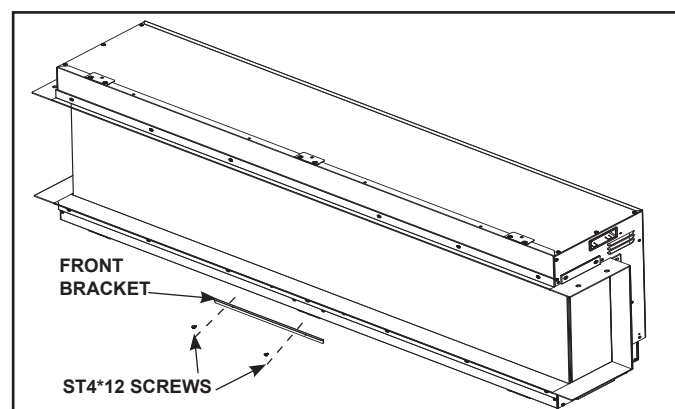

Figure 11
3. Attach the front bracket to the appliance using two (2) ST4\*12 screws. See Figure 11.